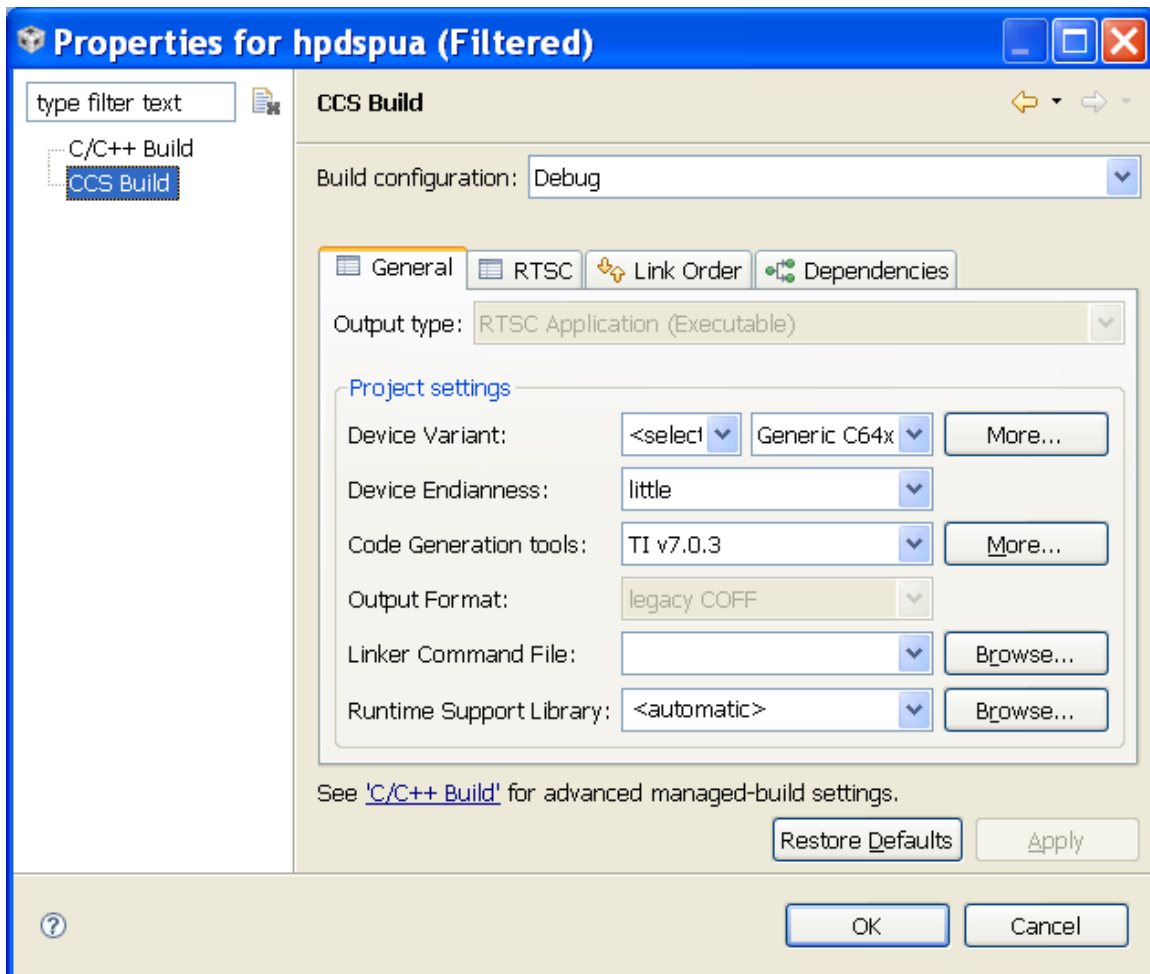

Figure 16 - CCS Build Properties
2. Change the build setting for the project from Little Endian to Big Endian and re-build. To change the setting, highlight the project, right click and select Build Properties. On the Build Properties screen, select CCS Build. See Figure 16 - CCS Build Properties.